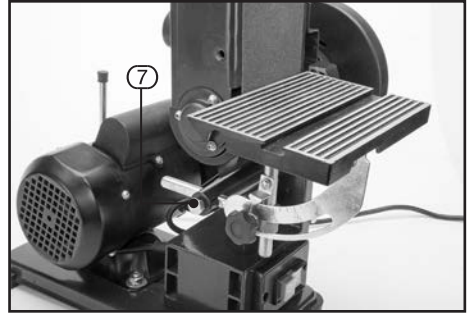

FIG.10
8.8 WORK SUPPORT TABLE ATTACHED TO SANDING BELT - FIG. 10